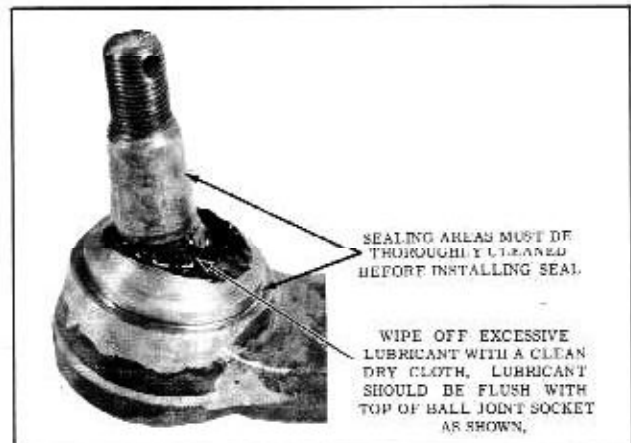

Fig. 5-3 Ball Joint Prior to Installing Seal
6. Using a hand operated, ball type nozzle grease gun filled with Ball Joint Grease, Part No. 585617, lubricate ball joint until clean grease completely fills the ball joint reservoir. (Figs. 5-3 and 5-4)
7. Install new service plug in ball joint cover, then clean grease from ball joint stud and sealing area of joint with a clean dry cloth. (Figs. 5-3 and 5-4)